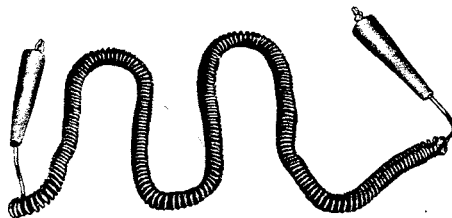

Fig. 5—W1BU Cord
3.03 *W1BU Ground Cord (Fig. 5):* The W1BU ground cord is a black retractile single conductor cord equipped at each end with a Mueller No. 27 clip and a black Mueller No. 29 insulator. The usable length of the cord is approximately 20 feet. The ground cord is used to provide a ground to the conductive end cap when the 188A test set is being used while working aloft.